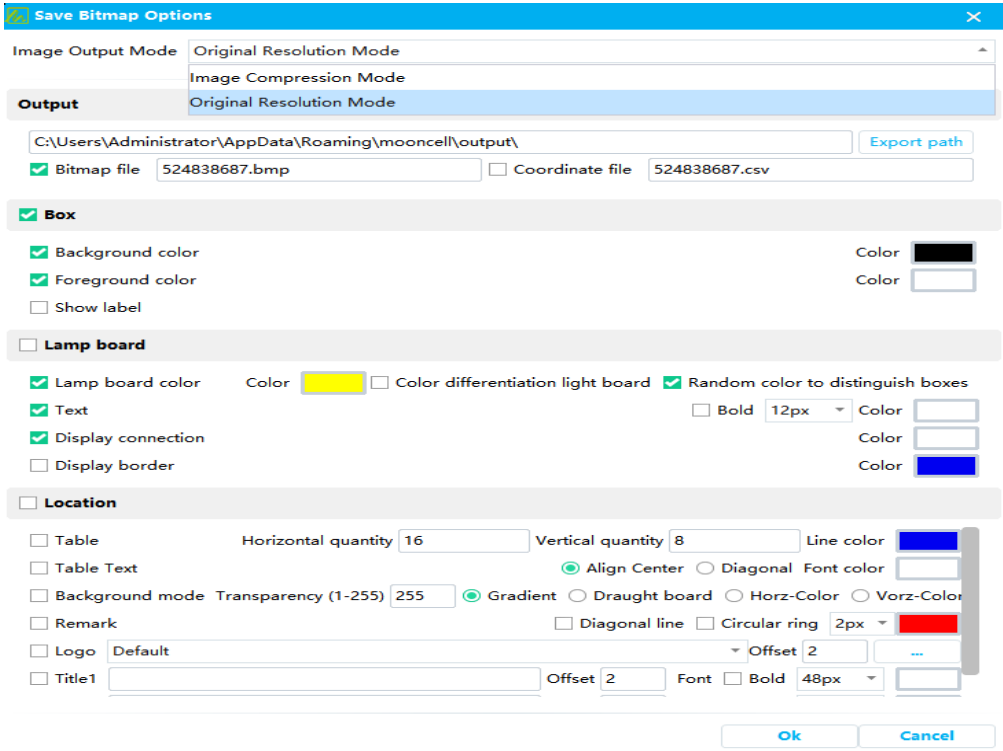

Figure 4-3-20 Alignment-map save options
- **Save Alignment Map:** Exports a cabinet-to-pixel mapping reference image in either compressed-image mode or original-pixel mode, as shown in Figure 4-3-20.